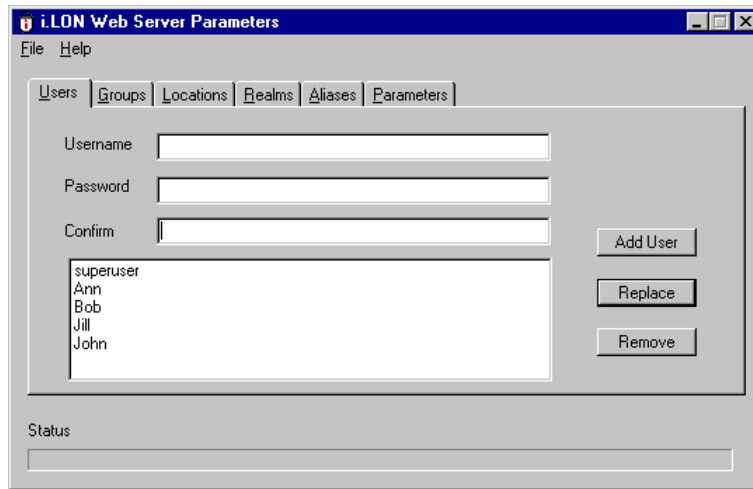

Figure 11-3 – Creating i.LON 1000 Users
1. Setup usernames and passwords from the **users** tab of the *i.LON Web Server Parameters* application as shown in Figure 11-3.